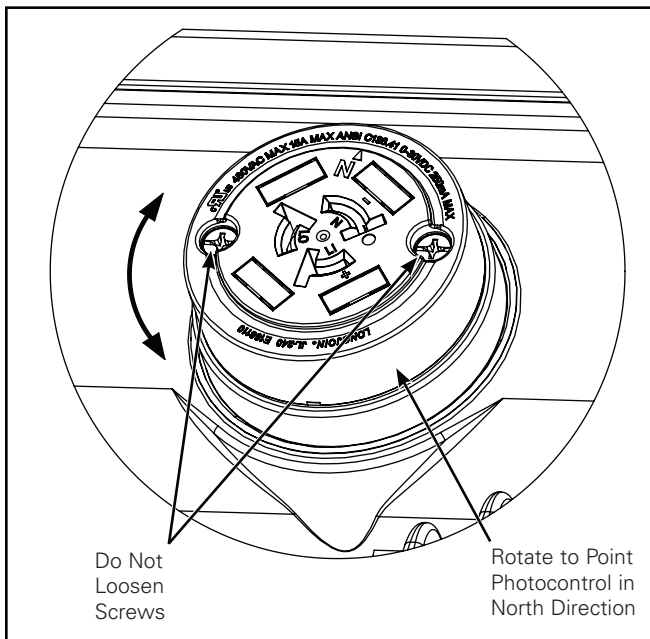

Figure 1. (7-PIN Tool-less)
**Note:** Do not loosen screws on 7-PIN tool-less receptacle. (Figure 1.)